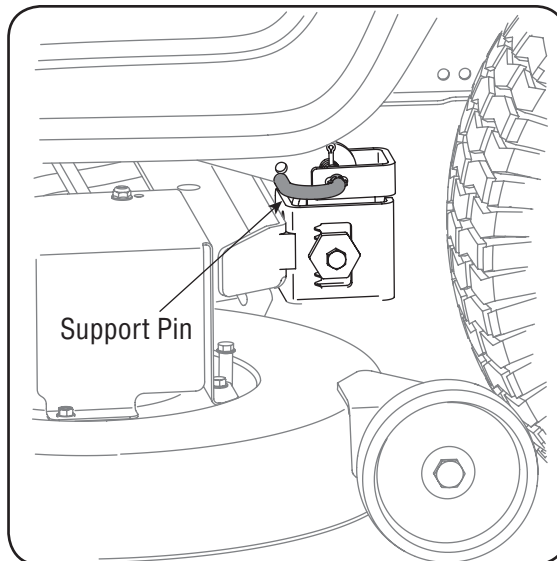

Figure 6-3
5. Looking at the cutting deck from the left side of the tractor, locate the deck support pin on the rear left side of the deck. See Figure 6-3.